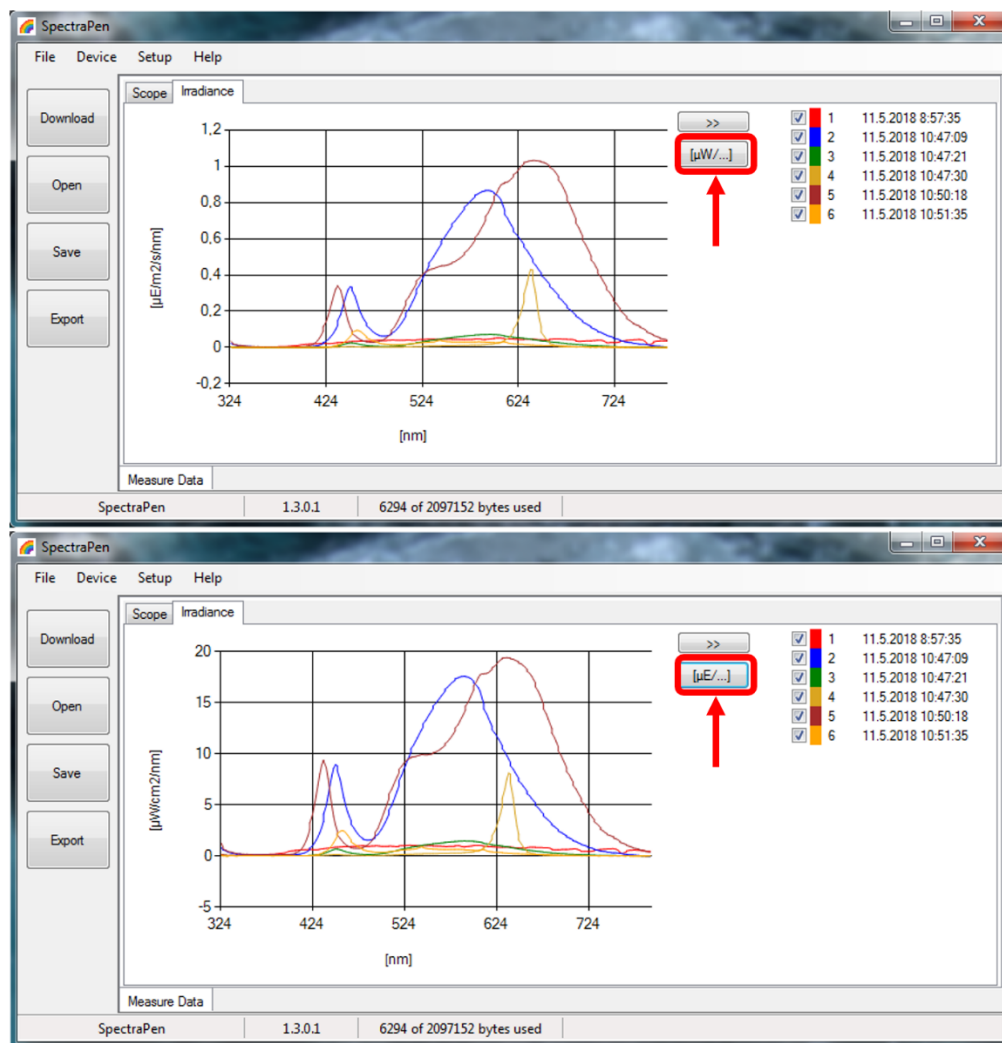

Fig. 32 Irradiance shown in different units.
10. Select **Irradiance** tab to view the irradiance data stored either as $\mu\text{mol}/\text{m}^2/\text{s}/\text{nm}$ or per $\mu\text{Watts}/\text{cm}^2/\text{nm}$. To change the units in which the spectra is displayed click on the unit icon as shown in (Fig. 32).
11. To view the light meter data for the spectral scans acquired click on the unit icon as depicted by red arrow in Fig. 32. Irradiance and illuminance **light meter numerical values** for each scan are displayed as LUX, PAR or IRRADIANCE values (Fig. 32).